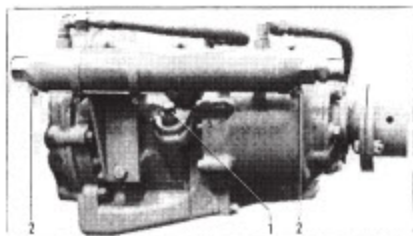
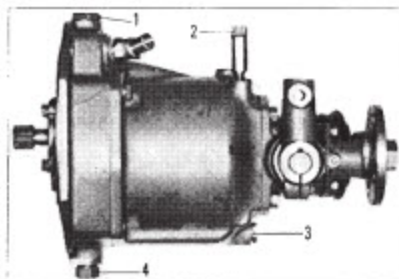

Fig. 14. Hydraulic reverse gear Borg-Warner
Fig. 15. Reduction reverse gear RB
Check the oil level in the reverse gear daily before starting the engine for the first time. This is done with the help of the dipstick (1, Fig. 14 or 2 Fig. 15). The oil level should be between the marks on the dipstick. If necessary fill up with oil of the same type already used in the reverse gear (see point 4).
Draining is done through the plug (3, Fig. 15) if this is accessible. Otherwise the oil is sucked up by a crankcase pump through the hole for the dipstick. Oil is filled through the plug (1).
The oil is drained off through the reduction gear bottom plug or is sucked up by means of an oil drain pump through the dipstick hole (see Fig. 14). When filling oil, the reverse gear should be filled up to the upper level mark on the oil dipstick. Then start the engine and run it for a few minutes at idling speed so that the reverse gear oil cooler is filled with oil. Stop the engine and check the oil level again. Fill up with additional oil if necessary.